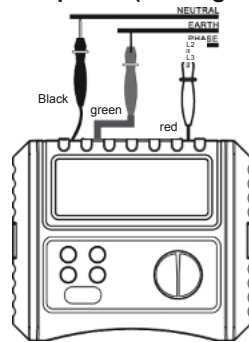

Figure 6
XI. Detecting Phase Sequence(See Figure 6)
- 3) Then connect three test leads into three-phase AC system(black to L1, green to L2, red to L3, refer to Figure 6 for details), after that, the Tester will indicate the phase sequence and open phase result on LCD.
- 2) Insert three connectors of one-plug test leads or three separate test leads into three input terminals of the Tester (red to red, green to green, black to black).(Refer to Figure 6, 7, 8)